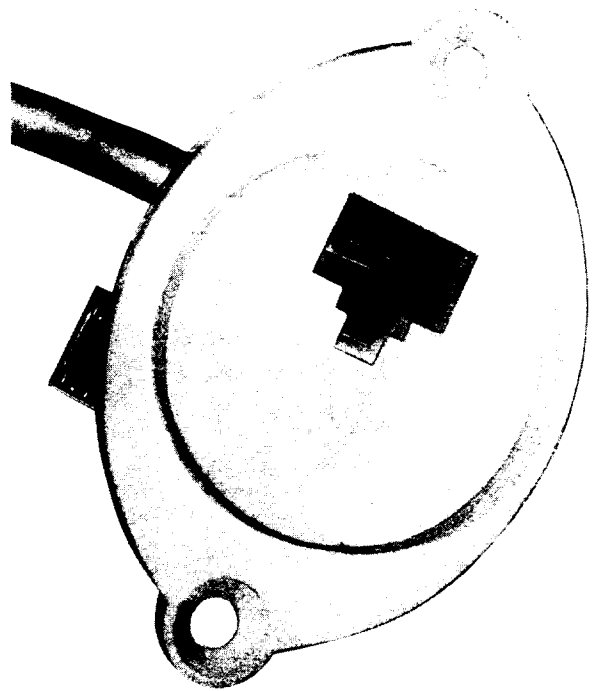

Fig. 6—102A Connecting Block
2.05 The 102A connecting block (Fig. 6 and 7) is used to connect one modular telephone set to the line. It is available in ivory only and consists of a plastic jack frame incorporating an 8-contact spring block assembly and an 8-position quick-connect field. Two plastic wire-terminating caps are also provided (see paragraph 1.03).
2.06 The 102A connecting block is intended to be flush-mounted into the wall surface using a 63B bracket or a KS-20502, L2 bracket with an 818839002 (P-88C900) faceplate, or using a 65A faceplate (see Section 461-630-100). For a double mounting arrangement, two 102A connecting blocks may be mounted on a 400A faceplate (paragraph 2.13). All mounting apparatus is ordered separately. Wiring of the 102A connecting block is shown in Fig. 2. Preferred mounting orientation of this connecting block is with the latch portion of the jack downward, as shown in Fig. 6.